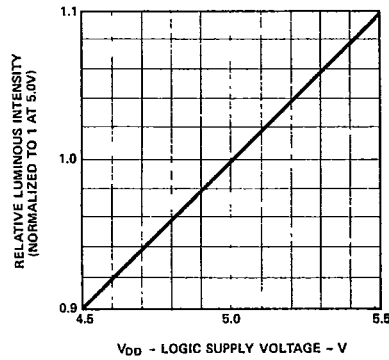
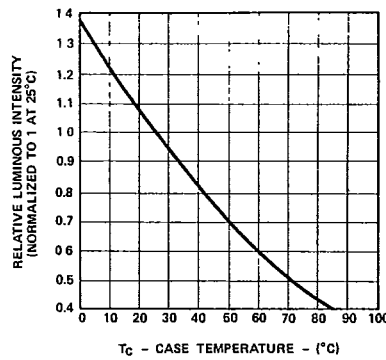

Figure 4. Relative Luminous Intensity vs. Logic Supply Voltage
Figure 5. Relative Luminous Intensity vs. Case Temperature
- See Figure 4 for relative luminous intensity versus ambient temperature. See Figure 5 for relative luminous intensity versus logic supply voltage